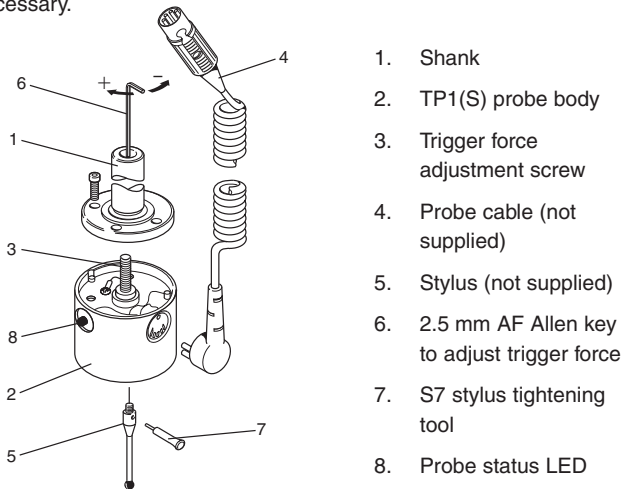

Figure 2 – TP1(S) touch-trigger probe
4.1 TP1(S) touch-trigger probe
The TP1(S) touch-trigger probe illustrated in Figure 2 is a robust shank-mounted probe with a generous overtravel which is especially suited to manual CMMs. It is of a maintenance-free, sealed construction to provide a long working life.